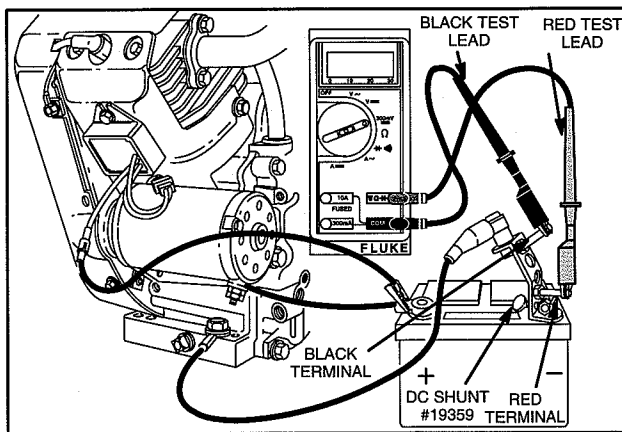

Fig. 23 – Testing Regulator-Rectifier 16 Amp System With DC Shunt
The DC Shunt **must** be installed on the **negative** (-) terminal of the battery, Fig. 23. All connections must be clean and tight for correct amperage readings.
2. Insert RED test lead into $V \Omega \rightarrow +$ receptacle in meter and connect to RED post terminal on shunt, Fig. 23.